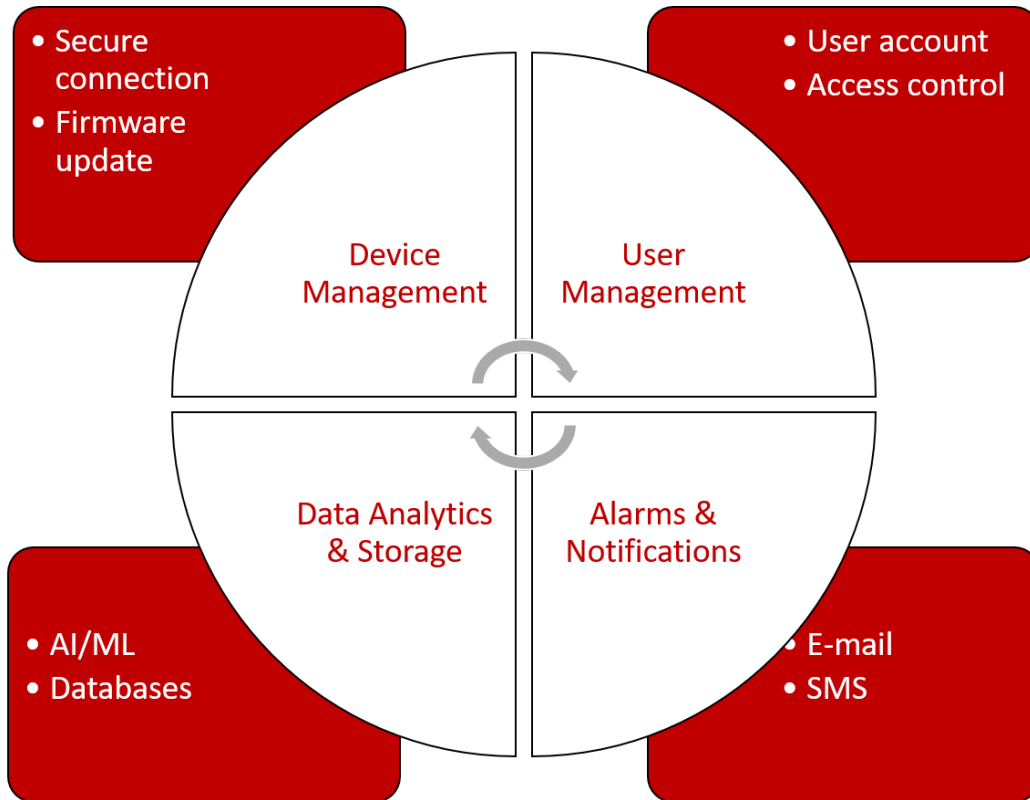

Figure 4: Components of a data platform
- Data platform:** This is the platform where the data is finally stored and presented for further analysis. Options here can range from a local database to a cloud server with redundancies. A typical platform consists of the components as shown in figure 4. The data platform enables the use of technologies like Artificial Intelligence (AI) and Machine Learning (ML) to perform advanced data analytics that generates value additions to the application.